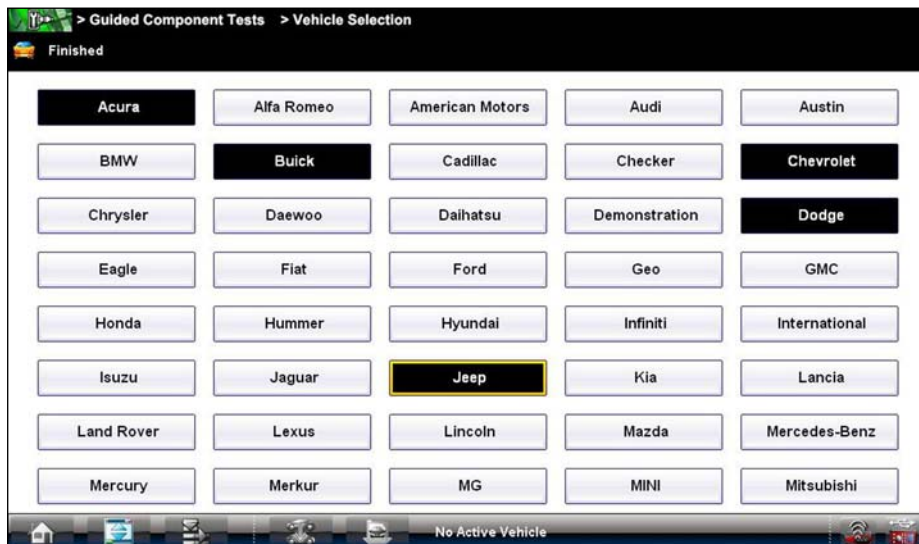

Figure 6-2 Sample Configure Favorites screen
2. Select each manufacturer you want to include. Selected manufactures are highlighted (Figure 6-2).